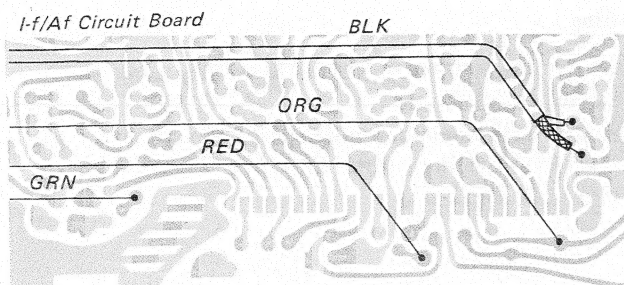

Fig. 2-12. Fm front end block removal
3. Unsolder the three leads and a coaxial cable on the i-f/af circuit board coming from the fm front end block in Fig. 2-12. (Refer to I-f/Af Circuit Board Removal on Page 5.)